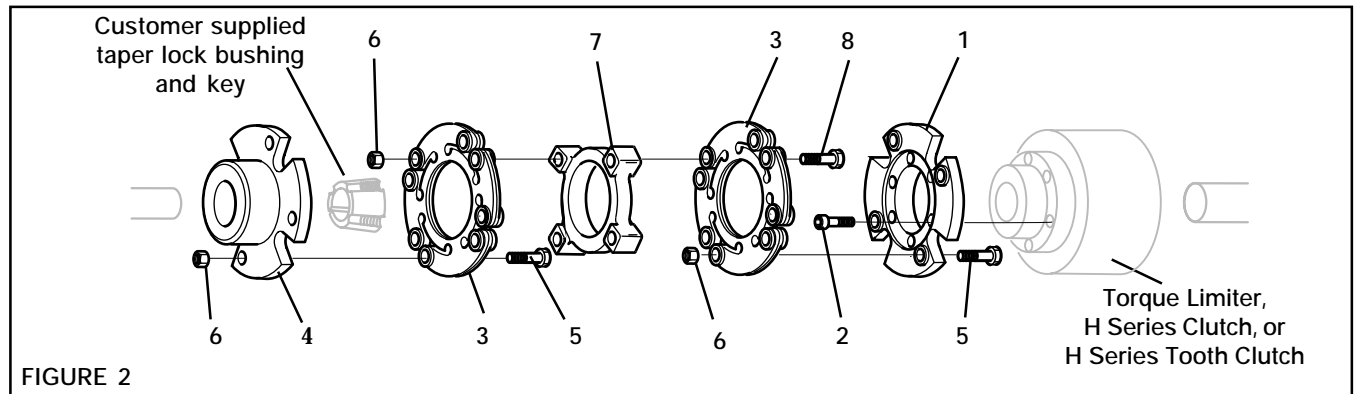

FIGURE 2
1. Insert the taper lock bushing into the Coupling Hub (Item 4) (See Figure 2).
2. Slide the Coupling Hub (Item 4) with the customer supplied taper lock bushing and key onto one shaft; then, install the set screws provided with the taper lock bushing (See Figure 2).
3. Using the Socket Head Cap Screws (Item 2), attach the Coupling Adapter (Item 1) to the Clutch or Torque Limiter (See Figure 2).
5. Slide the Coupling Adapter with the Clutch or Torque Limiter onto the other shaft (See Figure 2).
9. Using Hex. Head Cap Screws (Item 8) and Hex. Nuts (Item 6), secure the Disc Packs (Item 3) to the Flange (Item 7) (See Figure 2).
13. Using Hex. Head Cap Screws (Item 5) and Hex. Nuts (Item 6), secure the Disc Pack and Flange Assembly to the Coupling Adapter (Item 1) and the Coupling Hub (Item 4) (See Figure 2).